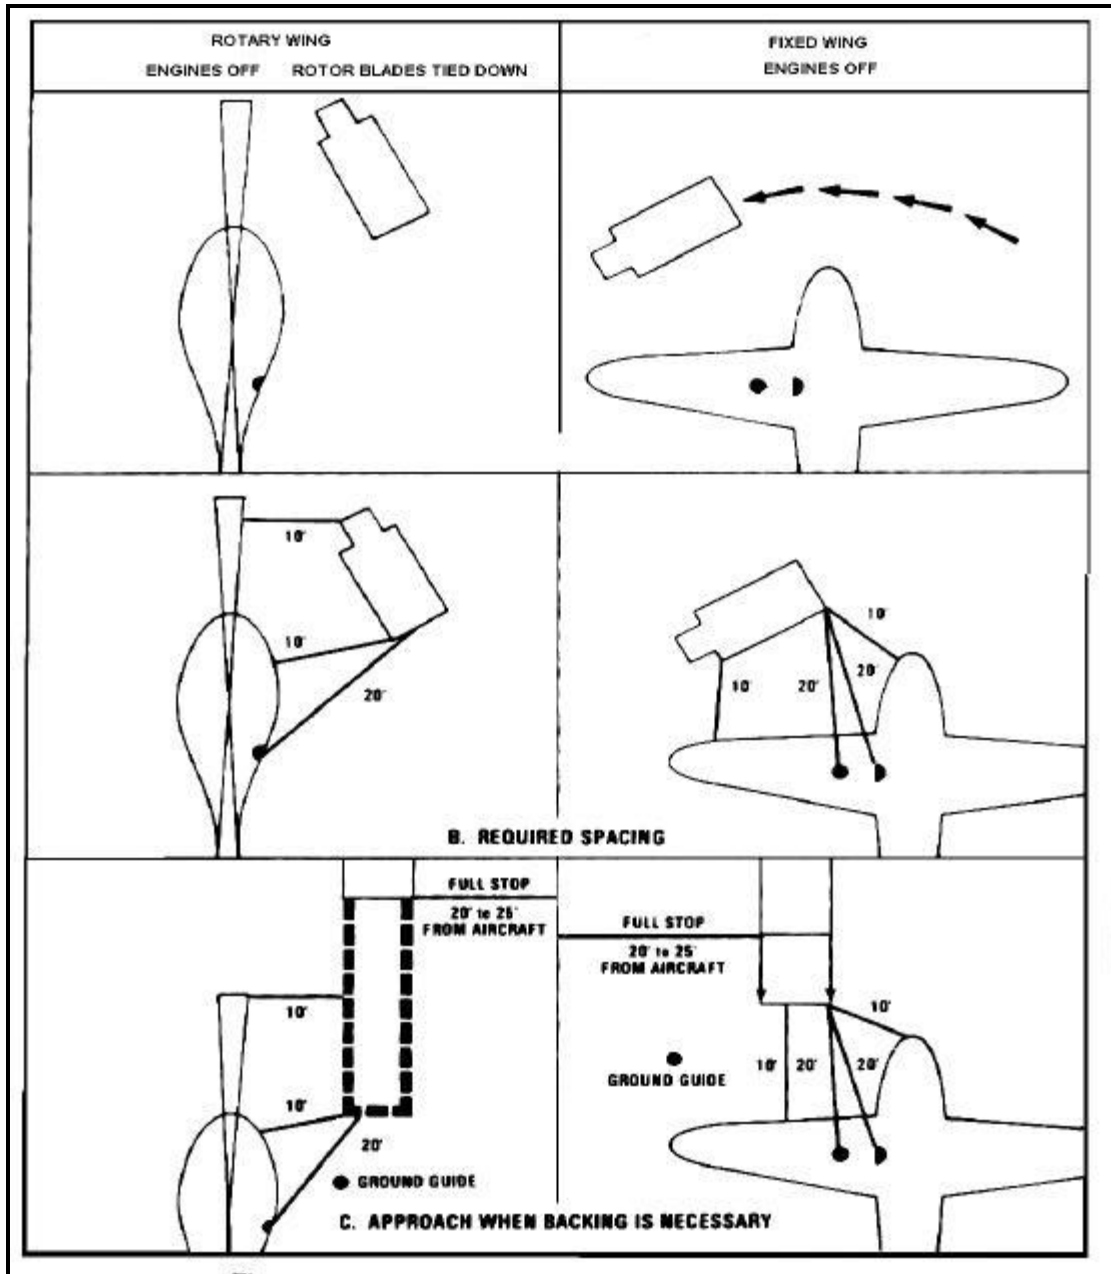

Figure 16-1. Positioning tank vehicle for refueling aircraft
Drive the tank vehicle into position in front of the aircraft. Use the approach route shown in A, Figure 16-1, page 16-5. Do not drive the refueler directly toward the aircraft because brake failure could cause a serious accident.
- Minimum distances. Keep a distance of at least 10 feet between the refueler and the aircraft. There must be at least 10 feet between the refueler and rotor blades of a helicopter. Keep a distance of at least 20 feet between the exhaust pipe of the pump engine (or truck engine) and the aircraft fill port and tank vent. See B, Figure 16-1 page 16-5.
•Ground guides. If the refueler can be driven into position without backing, do so. If the refueler must be backed toward the aircraft, bring the truck to a full stop 20 to 25 feet away from the aircraft or its rotor blades. Have another soldier act as a ground guide. Follow his signals to guide the final backing approach until he stops the refueler at the proper distance from the aircraft and its fill port or vent. See C, Figure 16-1.